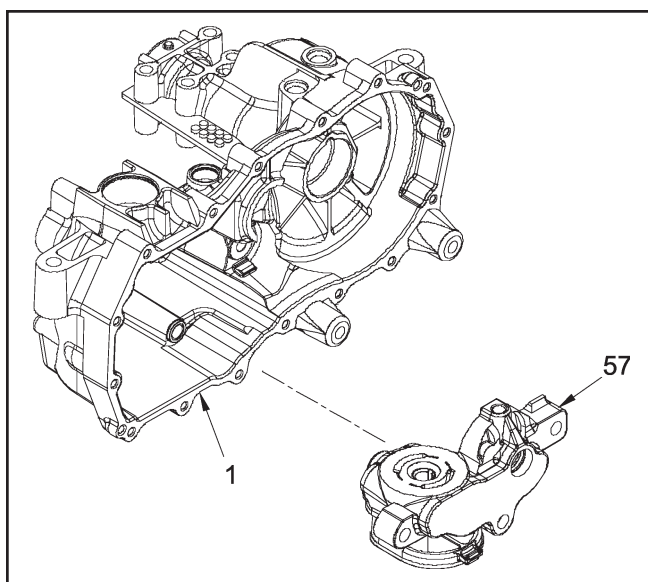
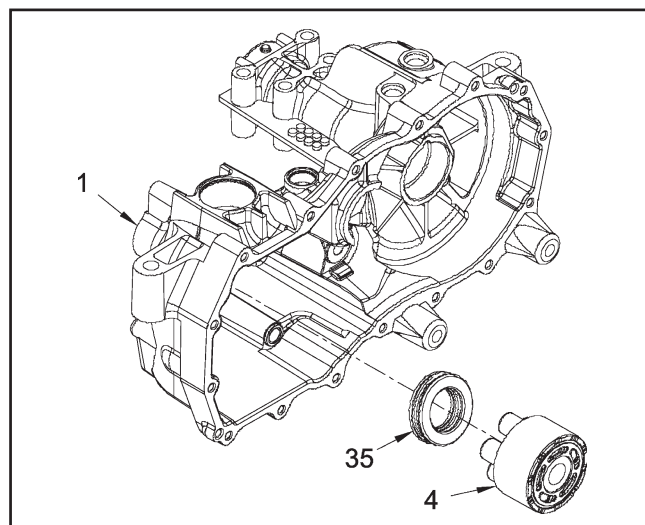

Figure 17.
Figure 19.
13. Remove the center section and filter assembly (57, Figure 17). NOTE: Bypass plate (Figure 17) may slide out of the center section.
15. Note the location of both check plugs (56) before removal for correct replacement during reassembly. Remove and inspect the check plug assemblies (56) for debris or damage.
16. Remove the filter base (61) and discard it. NOTE: The filter base is included in the filter kit to be installed during reassembly of the unit.
17. **(See Figure 19)** Remove the motor cylinder block assembly (4) from the housing (1).
18. Disassemble the motor cylinder block assembly (4). Check each piston for proper operation by pressing the pistons in and releasing them in the block bore. Disassemble the motor cylinder block. Check for piston/block wear in the cylinder bore. Inspect the pistons, piston springs and thrust washers for excessive wear or damage. NOTE: Thrust washers may be held in place in the piston by residual oil.
20. Remove the thrust bearing assembly (35) from the housing (1). Inspect the thrust bearing and thrust bearing cavity in the housing.
1. **(See Figure 19)** Turn the housing (1) so the motor thrust bearing cavity is facing up. This will assist in the installation of the motor thrust bearing assembly (35) keeping it in the bearing cavity during installation of the center section assembly (57, Figure 17).
2. Insert the thrust bearing (35) in the housing (1). NOTE: Place the thin race of the bearing towards the housing bearing cavity. The thick race must face the pistons.